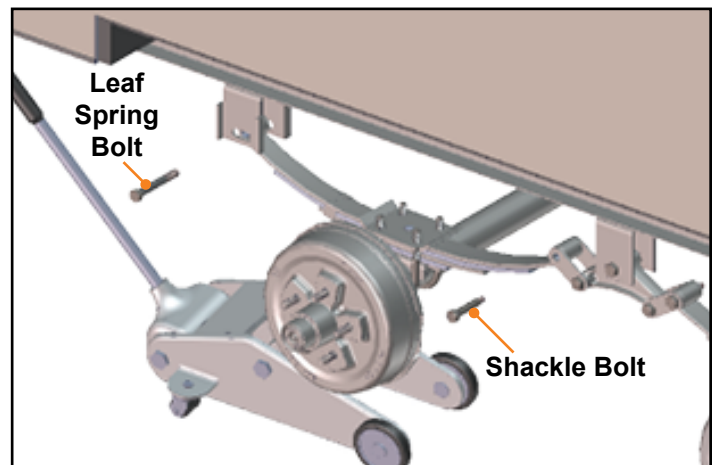

Fig.3
6. With an impact gun or an appropriate wrench, loosen the nuts on the leaf spring bolts and the shackle bolts (**Fig. 3**).